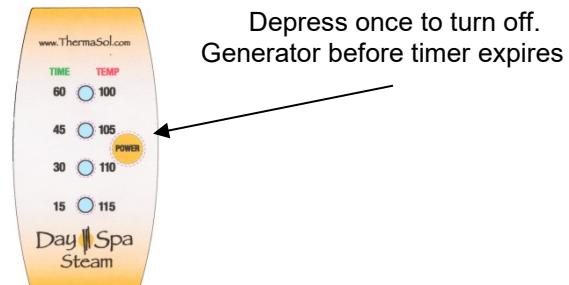

Figure 10
4. Manual Power Off. To manually power off the generator before the selected time has expired, press the “Control Button” once. The LED’s will go off and the steam will turn off. (**Figure 10**)